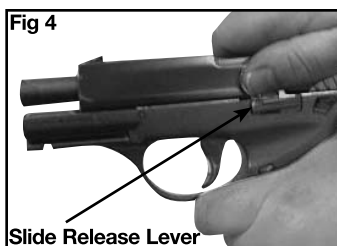

Fig 4 Slide Release Lever
- K. Slide Release lever (See Fig. 4)
- Cock the airgun by pulling the slide all the way back to the rearward position and slowly releasing it, allowing it to move forward (fig. 4).